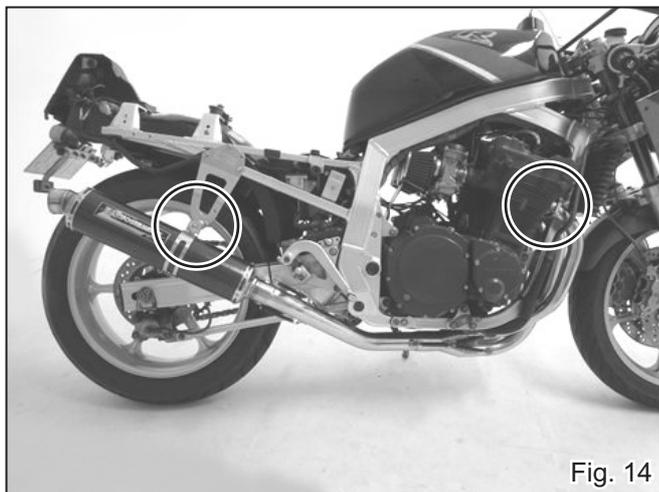

Fig. 14
- 14) Check that there are proper clearances between Yoshimura exhaust system and other components. Then, tighten and torque bolts at exhaust port and Silencer Band in order. (See Fig 14)